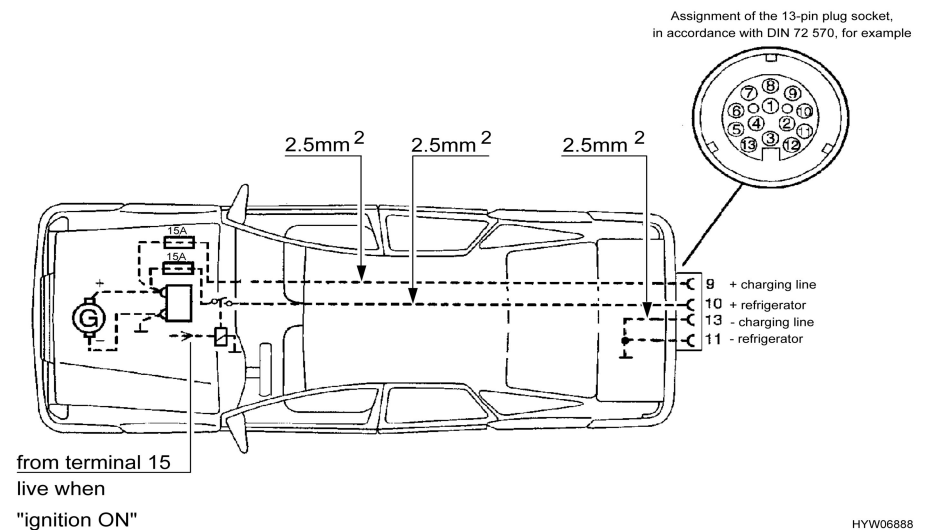

Fig. 48 Towing vehicle installation diagram
- ▷ The towing vehicle must be retrofitted with the corresponding cable cross sections and a relay for the power supply (controlled using the ignition) (see Fig. 48).